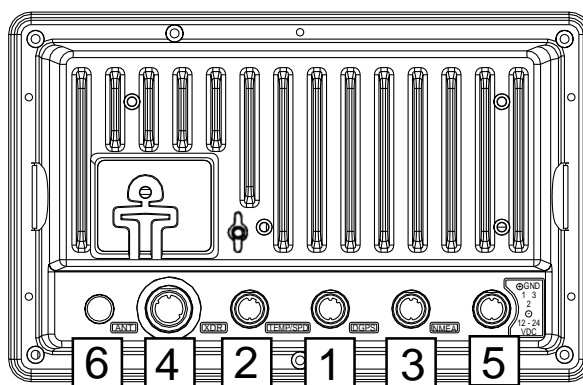

Figure 3-18 Display unit, rear view
7. Tighten nuts to torque shown below and in the order shown in Figure 3-18.